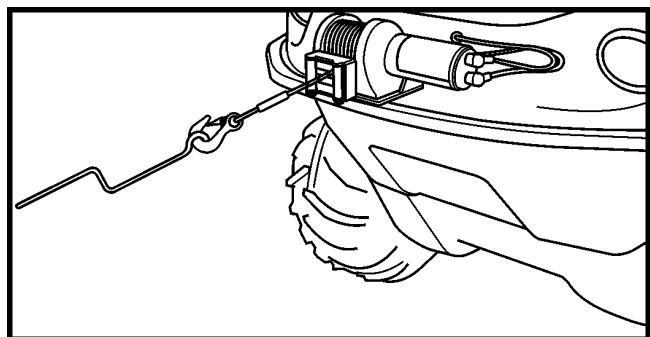

Figure 11-17. Using the Handsaver Bar.
7. Keep clear of winch wire rope and hook when operating winch. Never put your fingers through the hook when reeling in the last few feet of line. If your finger should become trapped in the hook, you could lose your finger. Use the **HANSAVER BAR** (Figure 11-17) to guide the hook within the last few feet. Never guide a wire rope onto the drum with your hand.